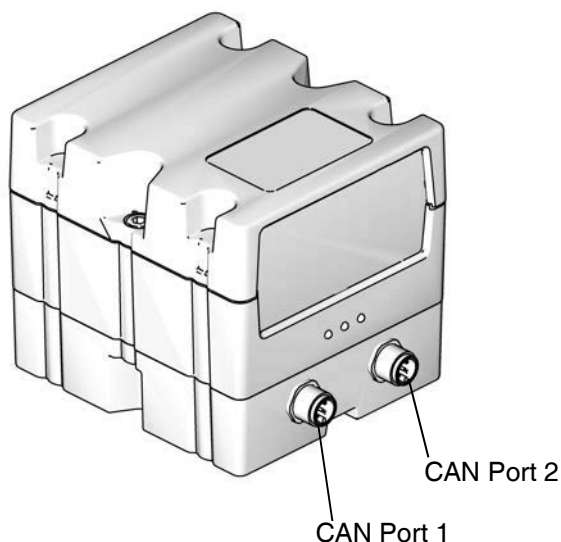

Fig. 20: CGM CAN Connections
10. Connect the other end of the CAN cable to either CAN port 1 or 2 on the CGM. See **Figure 20**. It can be connected to either port.